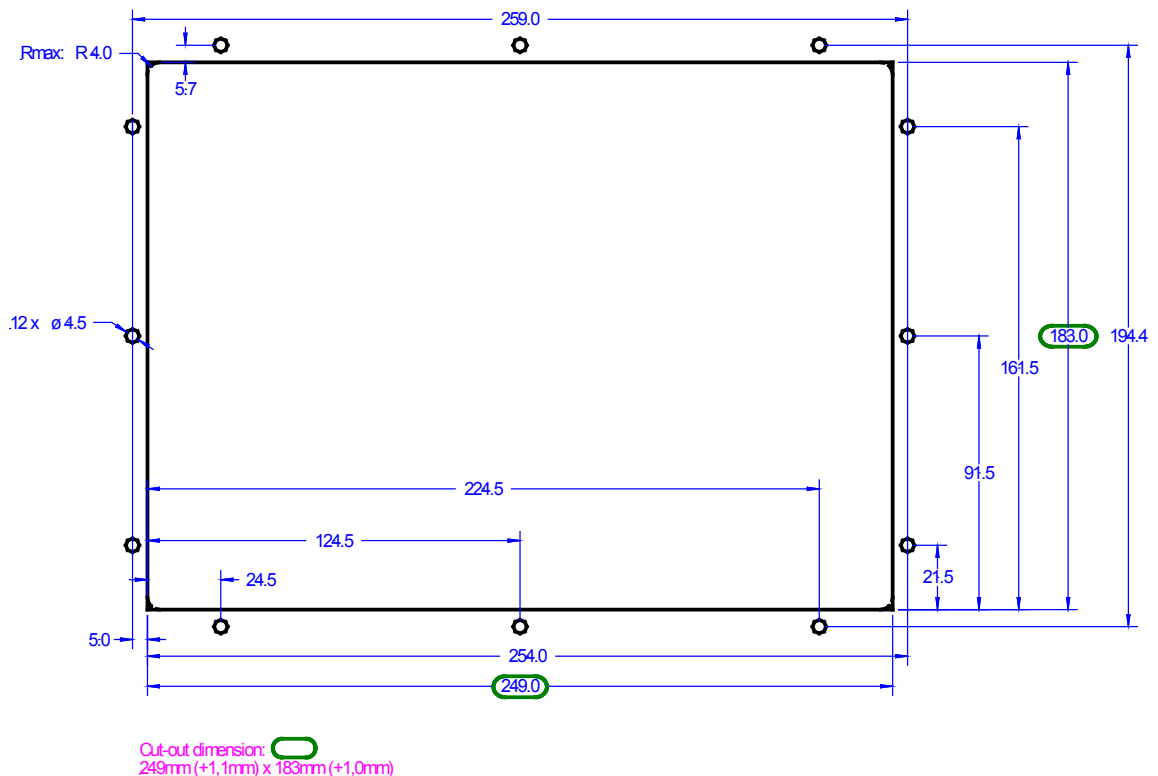

Figure 4-3: Housing - drill plan
Refer to Figure 4-3 on page 13 for a cutout drawing.
The housing is equipped with 12 nut inserts (refer to Figure 4-3 for their position), which must all be tightened properly to achieve the required degree of protection.
1. Cut out the panel and drill the holes according to the dimensions in Figure 4-3 (dimensions shown in mm).